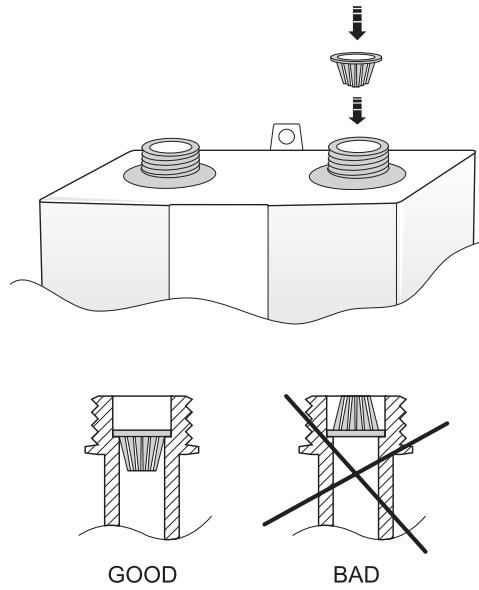

Fig.7
3. Connect heater in a way showed on fig. 6. Remember to fit water filter as showed on fig. 7. Use flexible hoses designed for pressurized system with rubber gasket.